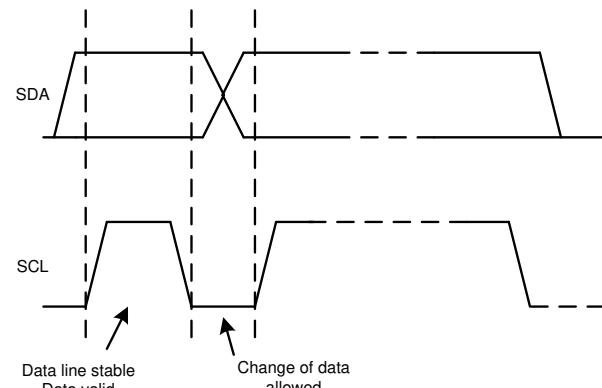

图 7-20. Bit Transfer on the I2C Bus
2. The controller then generates the SCL pulses, and transmits the 7-bit address and the read/write direction bit (R/W) on the SDA line. During all transmissions, the controller makes sure that data are valid. 图 7-20 shows that a valid data condition requires the SDA line to be stable during the entire high period of the clock pulse. All devices recognize the address sent by the controller and compare the address to the respective internal fixed address. Only the target device with a matching address generates an acknowledge by pulling the SDA line low during the entire high period of the 9th SCL cycle (see also 图 7-18). When the controller detects this acknowledge, the communication link with a target has been established.